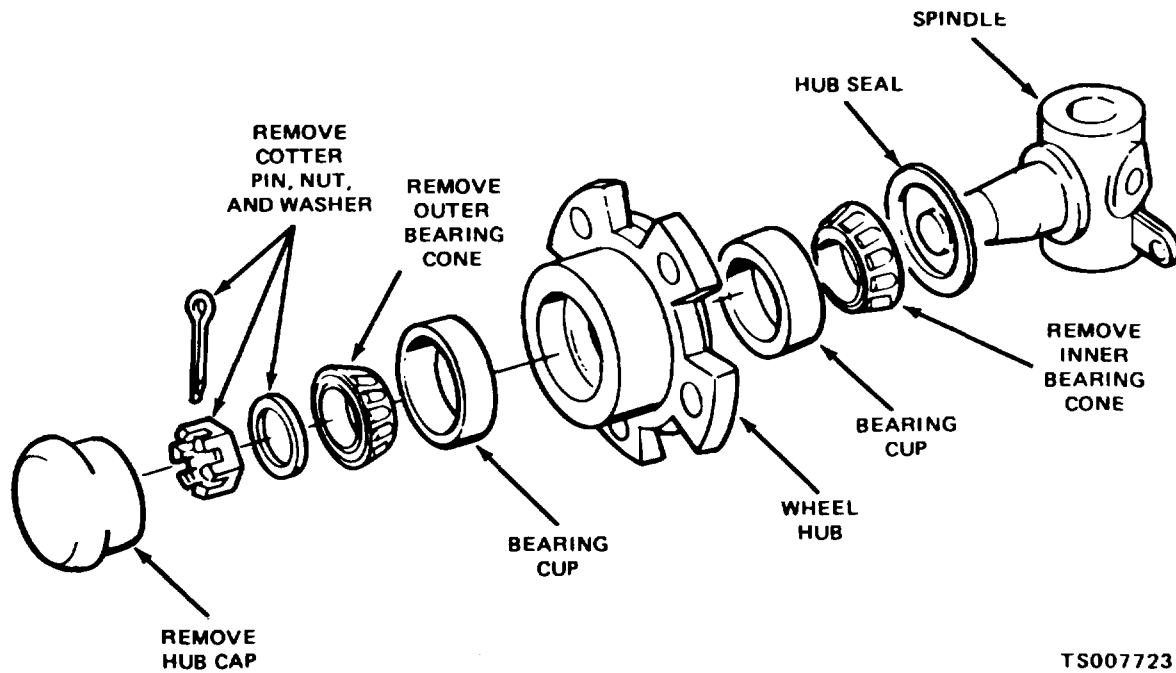

Figure 4-50. Wheel Bearings and Hub, Disassembly and Reassembly
(1) To raise the front end of the truck, tilt the upright back as far as possible and install a wooden block under the uprights. Tilt the upright forward to raise the front wheels from the ground. To raise the rear wheels, use a jack or hoist. Place blocking under the frame.
(2) Refer to figure 4-50 to remove the wheel bearings from the spindle of the front axle or from the steering knuckle of the rear axle.
(1) Reassemble the bearings and hub on the spindle or steering knuckle as shown in figure 4-50.
(2) When installing the slotted nut, tighten the nut while rotating the wheel in both directions until the bearings bind slightly during rotation. Back off the nut by 1/6 to 1/4 turn and lock the position of the nut with a cotter pin.
(3) Remove the blocking and lower the truck to the ground.